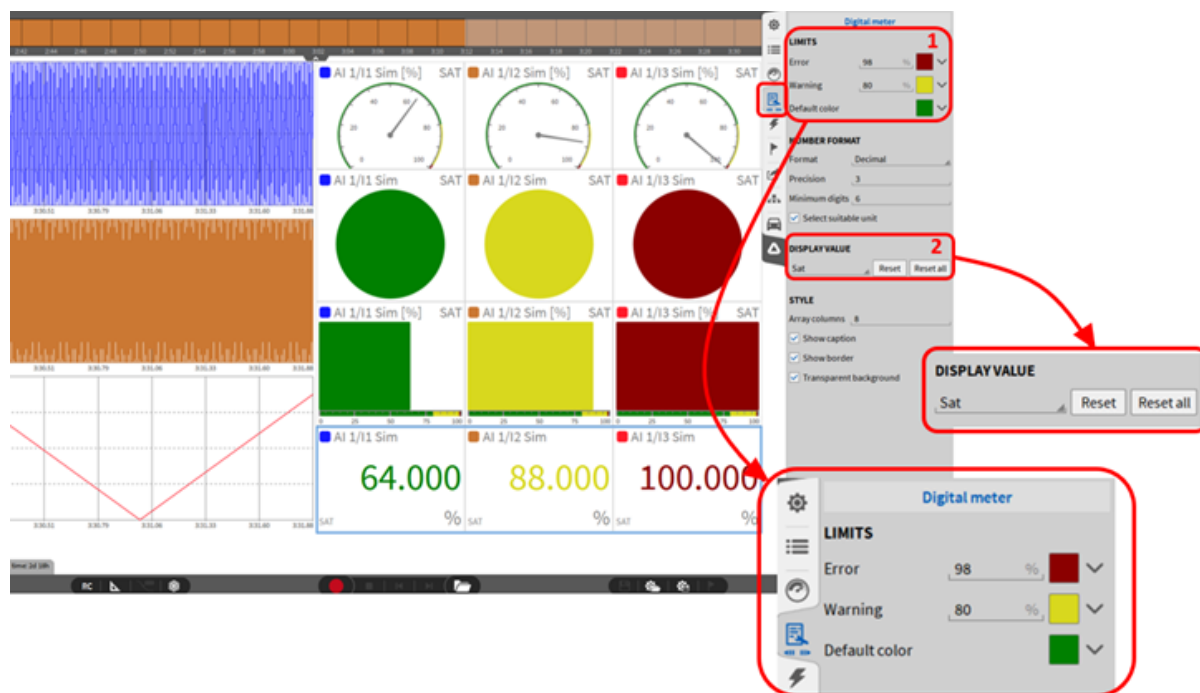

Fig. 8.15: Saturation visualization of channels
After adding one of the previously listed instruments to the measurement screen, the “Sat” (saturation) mode must be selected as the display value in the settings of the respective instrument. (see ② in Fig. 8.15). By pressing the “Reset” button, the selected instrument will be reset, by pressing “Reset all”, all saturation displays will be automatically reset (instruments other than the selected instrument too). After selecting the display value “Sat”, the colors as well as the limit values for the display can be changed if required (see ① in Fig. 8.15).